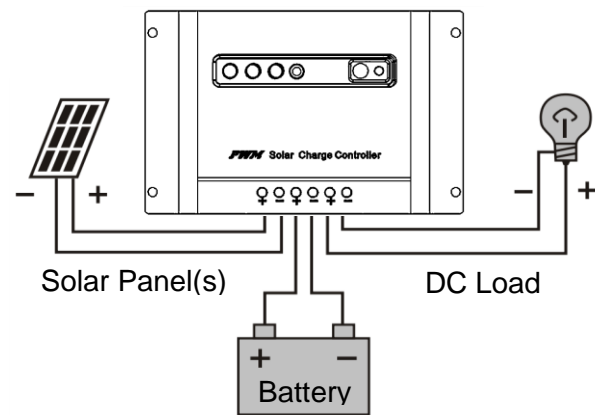

Figure 1. Wiring diagram
5. After all connections are made as shown in **Fig. 1**, the charge controller will now be providing charge to your battery or batteries. To test the system for proper connections, press the SET button on the charge controller until you see number **6.** (6 "Dot") or **7.** (7 "Dot"). See **Table 1** for description of each work mode.